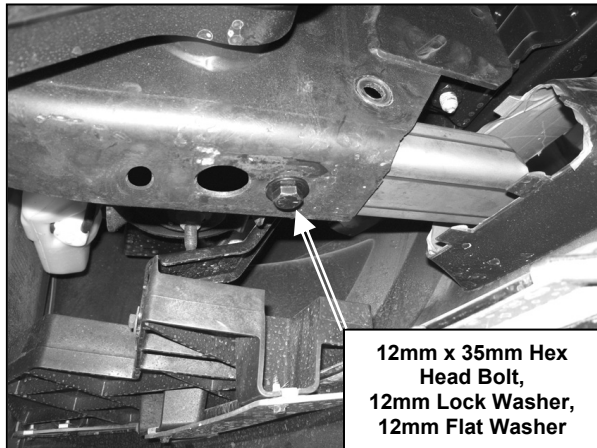

Figure 2
5. Align holes on the Mounting Brackets with holes on the frame. Partially thread (1) 12mm x 35mm Hex Head Bolt, (1) 12mm Lock Washer, and (1) 12mm Flat Washer through factory front hole on the frame and into welded nut on the Mounting Bracket (Figure 2). Do not tighten at this time.
6. Insert (1) 12mm Nut Plate through larger center hole on the frame and onto rear factory hole. Align Nut Plate with rear factory hole.
7. Secure rear side of Mounting Bracket by inserting (1) 12mm x 35mm Hex Head Bolt, (1) 12mm Lock Washer, and (1) 12mm Flat Washer through rear factory hole and into Nut Plate. Do not tighten at this time.
9. Position Bull Bar on the inner side of Mounting Brackets. Attach Bull Bar to Mounting Brackets using the included (4) 12mm x 30mm Hex Head Bolts, (4) 12mm Nylock Nuts, and (8) 12mm Flat Washers. Do not tighten at this time.